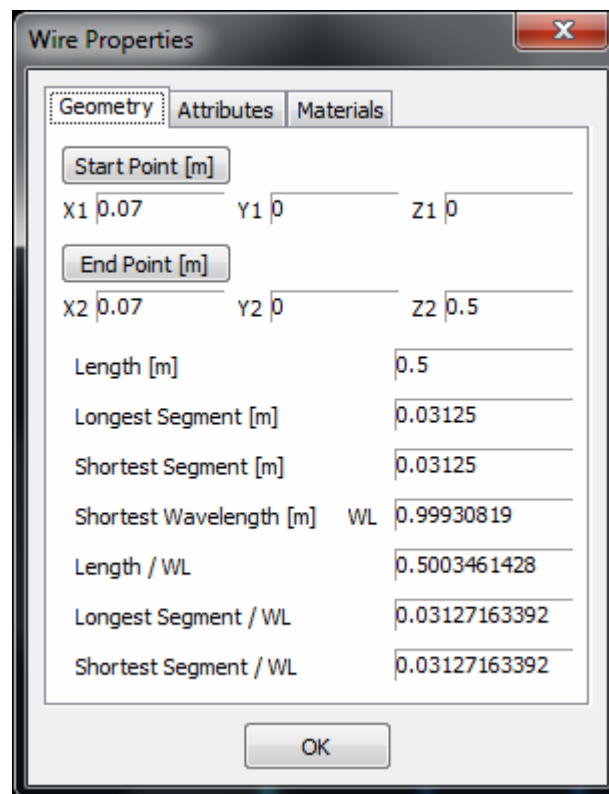

Fig. 6.8: Wire Properties dialog box. The Geometry page shows the geometrical properties of the selected wire.
Choose the Wire Properties... command to display the Wire Properties dialog box, Fig. 6.8.
Shows the geometrical properties of the selected wire, Fig. 6.8.
2. Choose the Wire Properties... command from the pop-up menu to display the Wire Properties dialog box, Fig. 6.8.